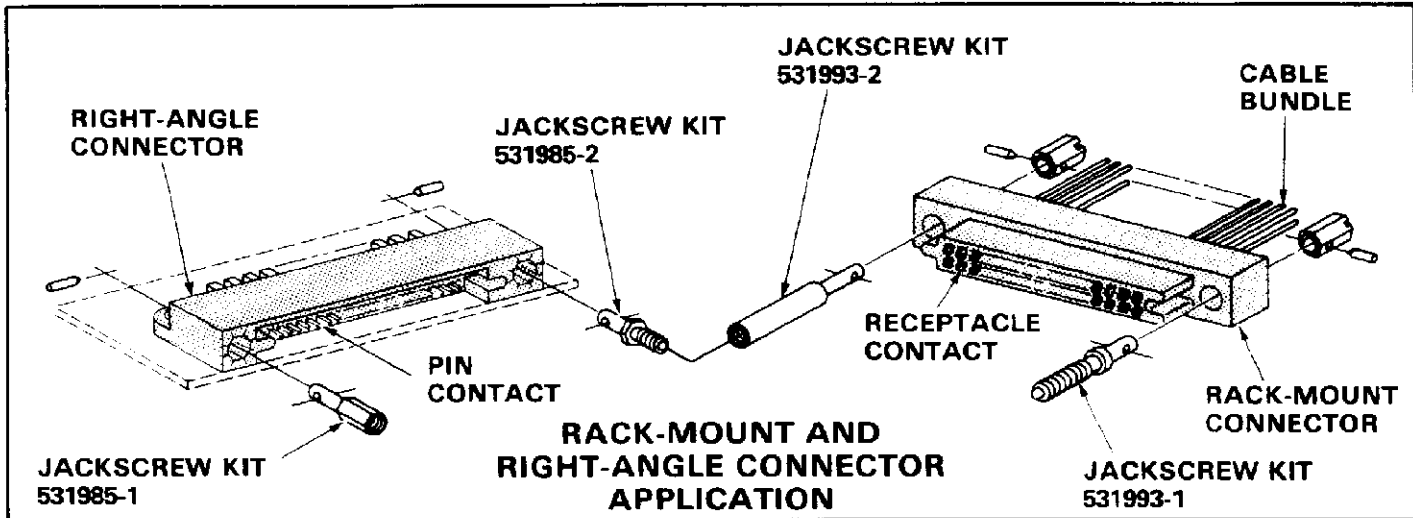

Fig. 5
2. Rack-Mount and Right-Angle PC Board Connector (Figure 5)